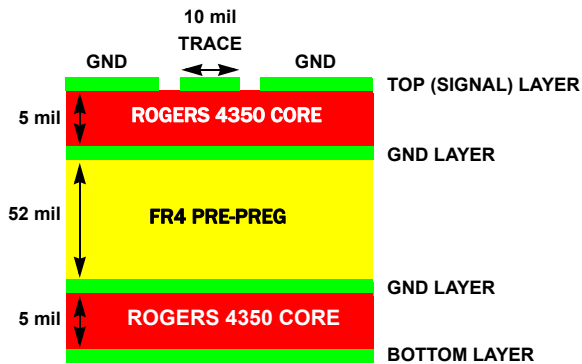

FIGURE 10. FOUR LAYER BOARD STACK-UP
- A four layer PCB board: Signal (top layer), Thin-Dielectric, GND (2nd layer), Thick-Dielectric, GND (3rd layer), Thin-Dielectric, Signal (Bottom layer) is required to achieve  $50\Omega$  traces. The top and bottom thin-dielectric are Nelco 4000-13 or Rogers 4350 core type material. The center thick-dielectric is FR4 pre-preg material. Figure 10 illustrates the material and sequencing of the layers. The dimensions called out are those required to achieve  $50\Omega$  microstrip for the signal traces.